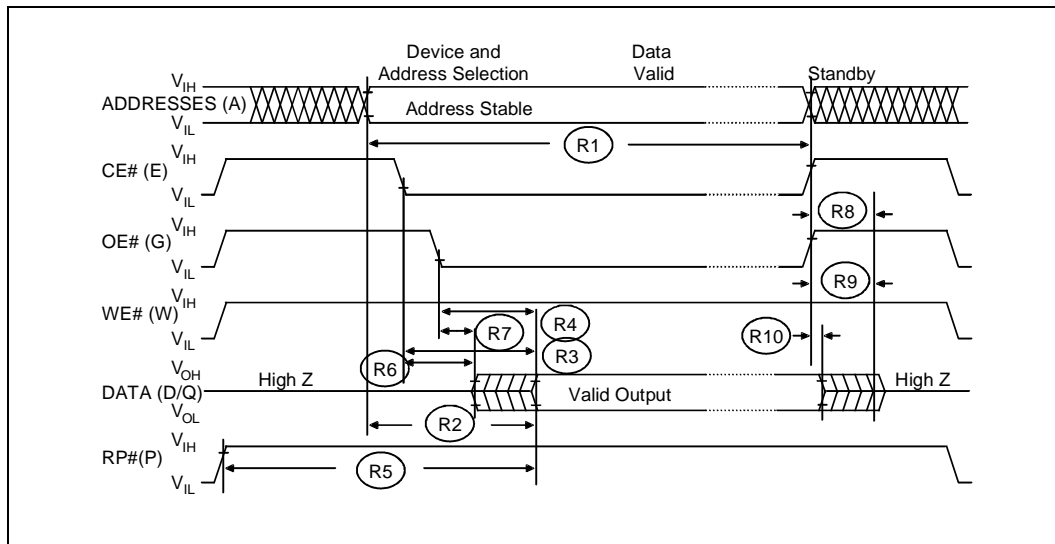

Figure 8. AC Waveform: Read Operations
1. See Figure 8 AC Waveform: Read Operations.
1. See Figure 8 *AC Waveform: Read Operations*.
- See Figure 8, *AC Waveform: Program and Erase Operations*.